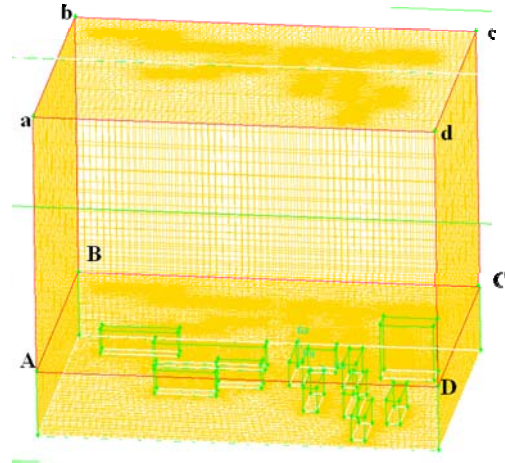

Fig. 41 The mesh volume.
⑤\* Pick sources faces ABCD and abcd (see Fig. 41).
⑥ Deactivate spacing.
⑦ Apply